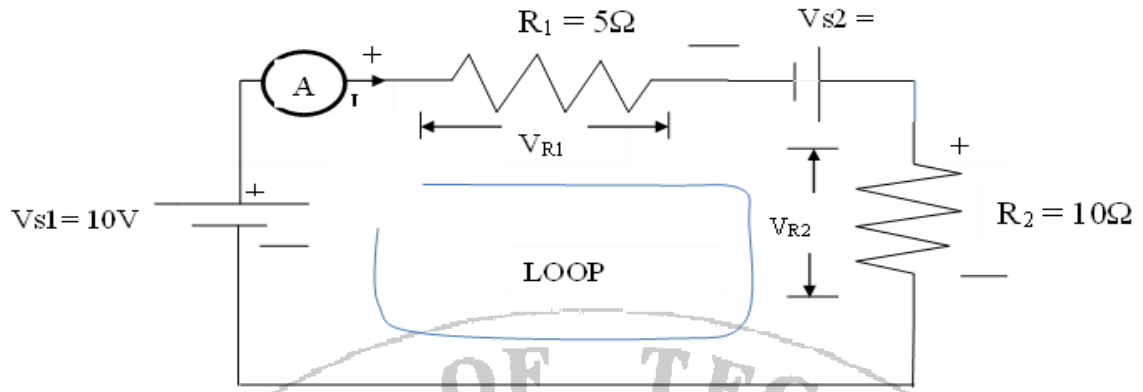

Fig 1.2
2. Write Kirchhoff's Voltage Equation for the given loop in figure 1.2 and calculate the values of current and voltage across each component.